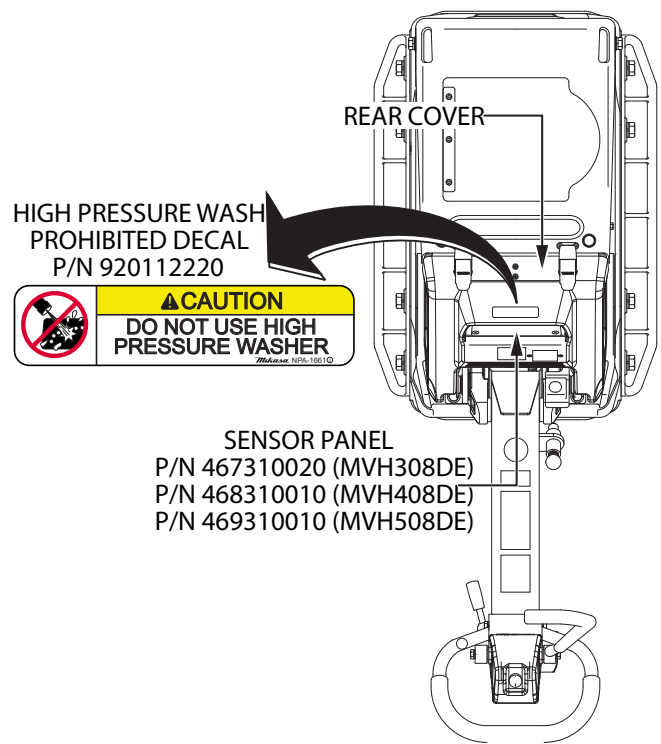

Figure 53. Decal Placement
5. Carefully remove the backing from the High Pressure Wash Prohibited decal (P/N 920112220). See Figure 53.
6. Place the High Pressure Wash Prohibited decal (P/N 920112220) onto the top of the rear cover, just above the sensor panel (P/N 467310020 [MVH308DE], P/N 468310010 [MVH408DE], or P/N 469310010 [MVH508DE]). **MAKE SURE** the decal is oriented straight and flat. See Figure 53.